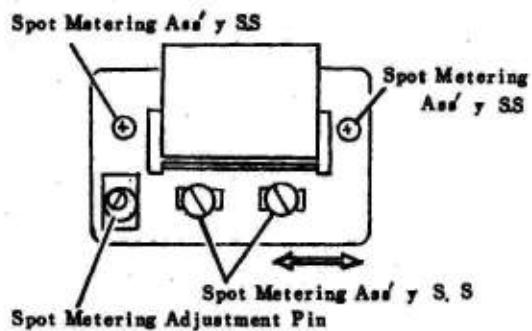

Fig. 187
- ① Affix a spot check chart (Chart B) in the standing position on the F. parallax chart on the wall. (Position the chart correctly.)
- ② Mount a lens (Planar 50/F1.4) on the camera.
- ③ Remove the Tripod Screw Base Ass'y from the camera and install a tripod fixture instead.
- ④ Lock the tripod fixture on the tripod so that the camera is installed upside down.
- ⑤ Adjust the focus of the lens and then adjust the optical axis of the camera to the center of the chart.
- ⑥ Loosen the four Spot Metering Base Setscrews, turn the Spot Metering Adjustment Pin, perform half release in spot and AE mode and lock the Spot Metering Base where the shutter speed is highest. (Tighten the four screws and lock them with Screw-Lock. (See Fig. 187)